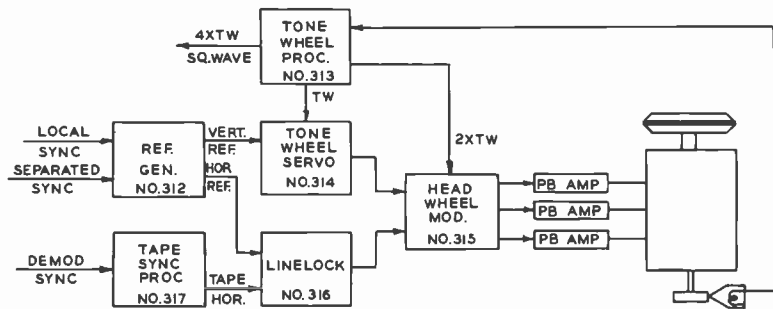

FIG. 29. Headwheel Servo block diagram. This controls speed of rotation of headwheel motor.
The *Headwheel Servo* for the TR-22 is housed in six modules (plus three power amplifier modules). These six modules (see Fig. 29) are: (1) the reference generator (No. 312), which processes local sync to produce horizontal-rate reference, field-rate reference, and frame-rate reference; (2) the tape sync processor (No. 317), which similarly processes tape sync to produce three corresponding signals; (3) the tone wheel processor (No. 313), which shapes the tone-wheel pulse, and also provides 960-cycle switcher drive; (4) the tone wheel servo (No. 314), which derives the error signal controlling the headwheel motor in the tonewheel mode; (5) headwheel modulator (No. 315), which uses this error signal to amplitude-modulate the motor-drive sine waves; and (6) the linelock module (No. 316), which provides line-by-line lock-up in the Pixlock mode.